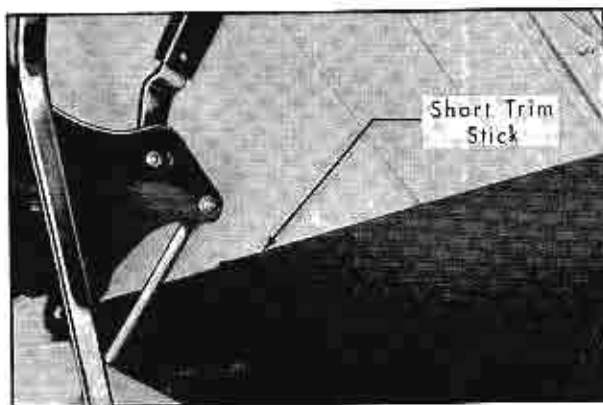

Fig. 3-117 Top Quarter Section Final Assembly
22. Inside the body, draw quarter section of top to desired position, with short trim stick held in place by hand. While holding material to trim stick, roll stick to expose tacking surface, and tack top material to trim stick. Then install trim sticks with metal screws. The finished installation is illustrated in Fig. 3-117.